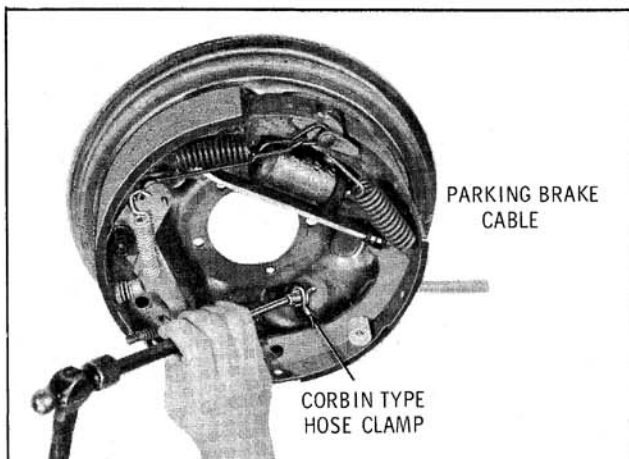

Fig. 11-17 Removing Parking Brake Cable
5. Install a Corbin type hose clamp over the conduit retainer fingers as shown in Fig. 11-17.